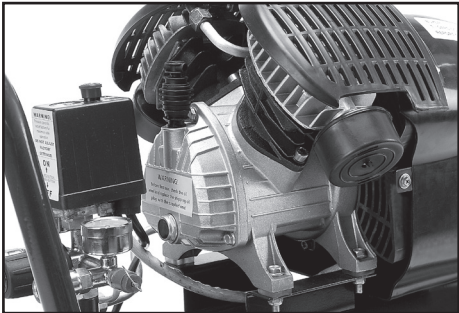

FIG.7
10.2 BASIC MAINTENANCE AND CHECKS – FIGS.7 – 8